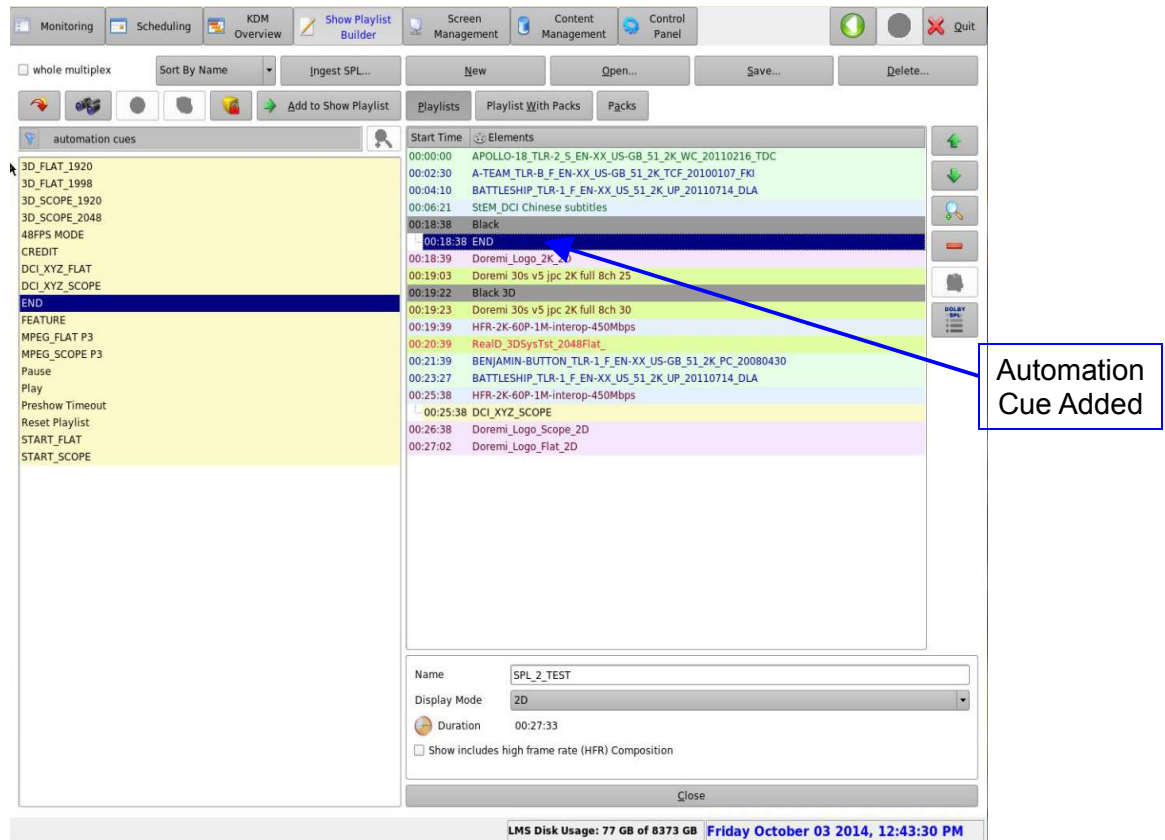

Figure 56: Automation Cue Added to an Element
- The Macro Automation Cue will appear under the element on the right part of the tab (Figure 56):